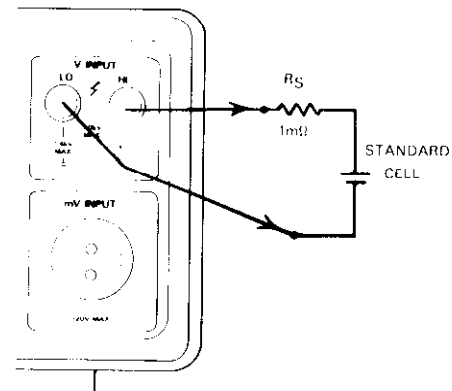

Figure 3-2. Absolute Cell Measurement Connections
Figure 3-2 shows the connections for making absolute standard cell voltage measurements. Once again,  $R_S$  is to be left in the circuit until the reading is actually taken. The basic procedure for making the absolute voltage measurement is as follows:
2. Connect the standard cell to the instrument as shown in Figure 3-2. Be sure to include  $R_S$  to protect the cell.